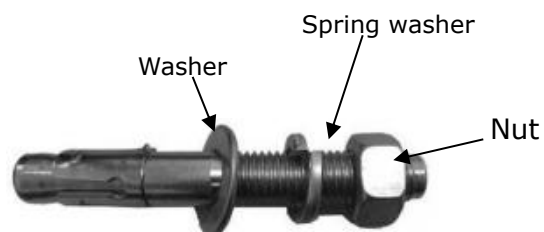

Fig. 13
1. Prepare the anchor bolts (See Fig. 13).